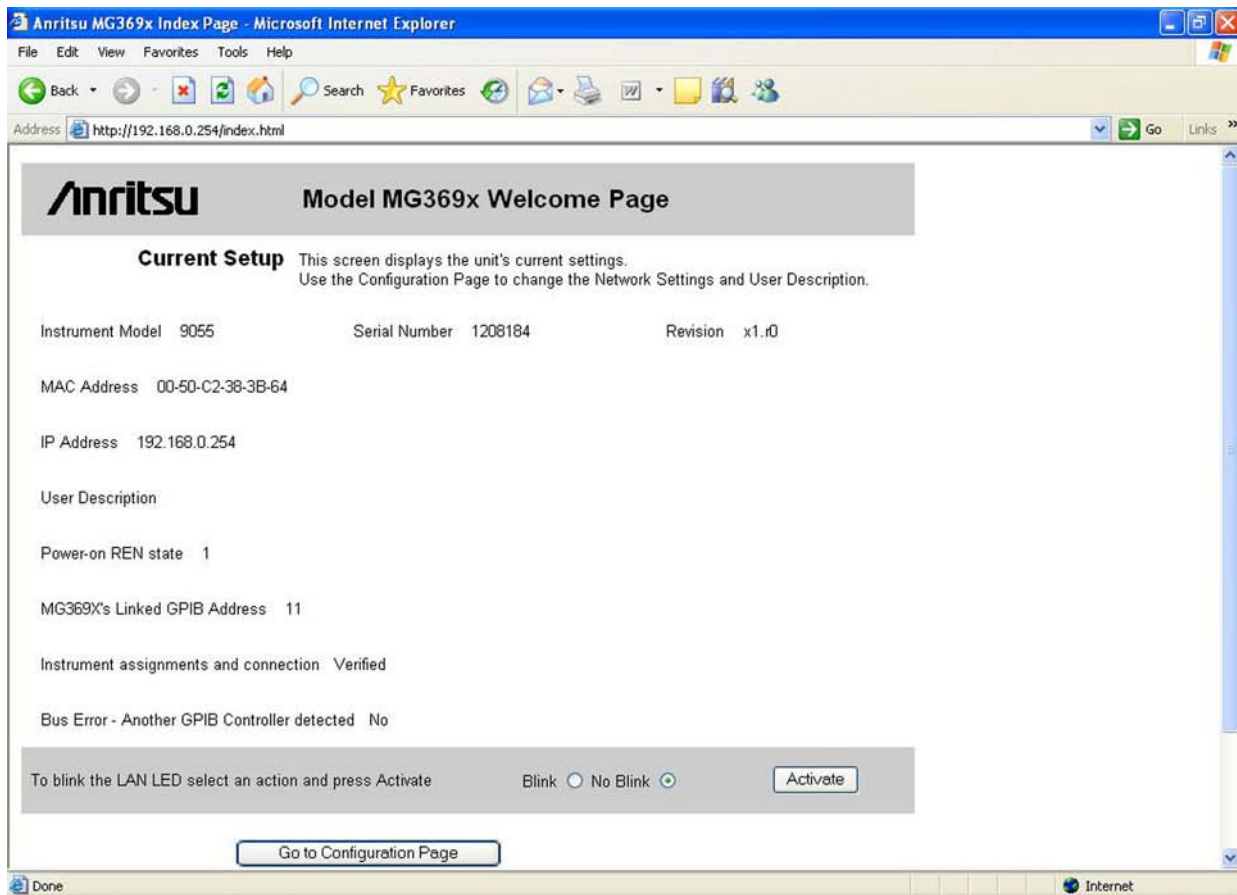

Figure 2-8. MG369xC Ethernet Device Welcome/Current Settings Page
3. Open a web browser on the PC. Enter the instrument IP address and press **Enter**. The browser will connect to the Ethernet/GPIB Controller and display the MG369x Welcome Page as shown in Figure 2-8.